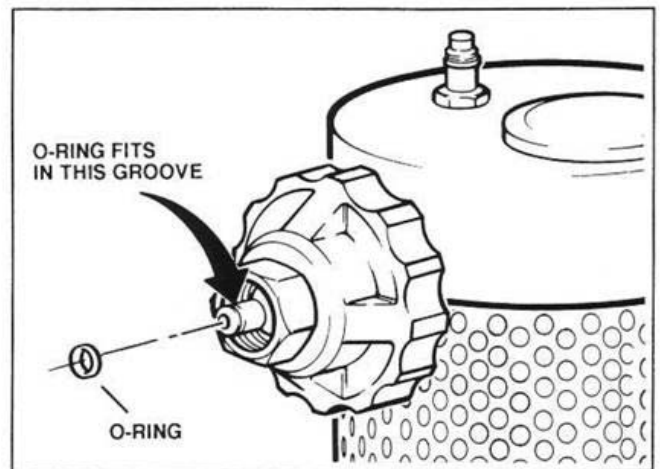

Figure 12. O-Ring Placement.
5. Remove the cap from the outlet of a fresh cylinder of nitrous oxide. Inspect the female connector on the mixer to assure that the O-ring (Figure 12) is in place. Attach the cylinder to the mixer assembly by turning the hand-wheel clockwise until "hand-tight."
6. Check the connection by opening the valve slightly and listening for leakage. If hissing is heard, close the valve and remove the cylinder as described in step 4. Recheck to ensure that the O-ring shown in Figure 12 is present and in good condition. Reassemble and check the connection once more to make sure there is no leak. If the connection is not leaking, close the valve. **Do not store the unit with the valve open.**